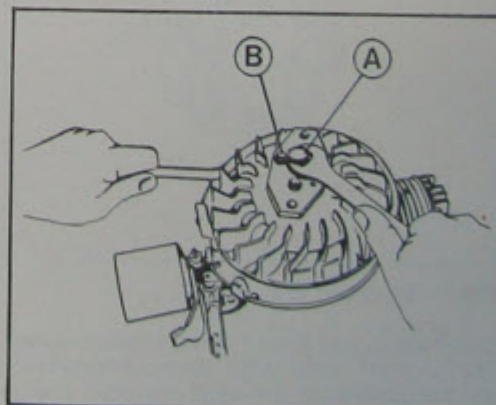

Fig. 7 MV engines using special tool K/1
The standard method of flywheel removal used on other engines can damage the balls and bearing tracks (Fig. 7).
- Place the tool as per Fig. 7 locating the screw "A" onto the crankshaft.
By using the tool and the 11/16 wrench the centre bolt can now be tightened (A). In this way the flywheel can be removed (see Fig. 7). For reassembling the flywheel, proceed as usual.